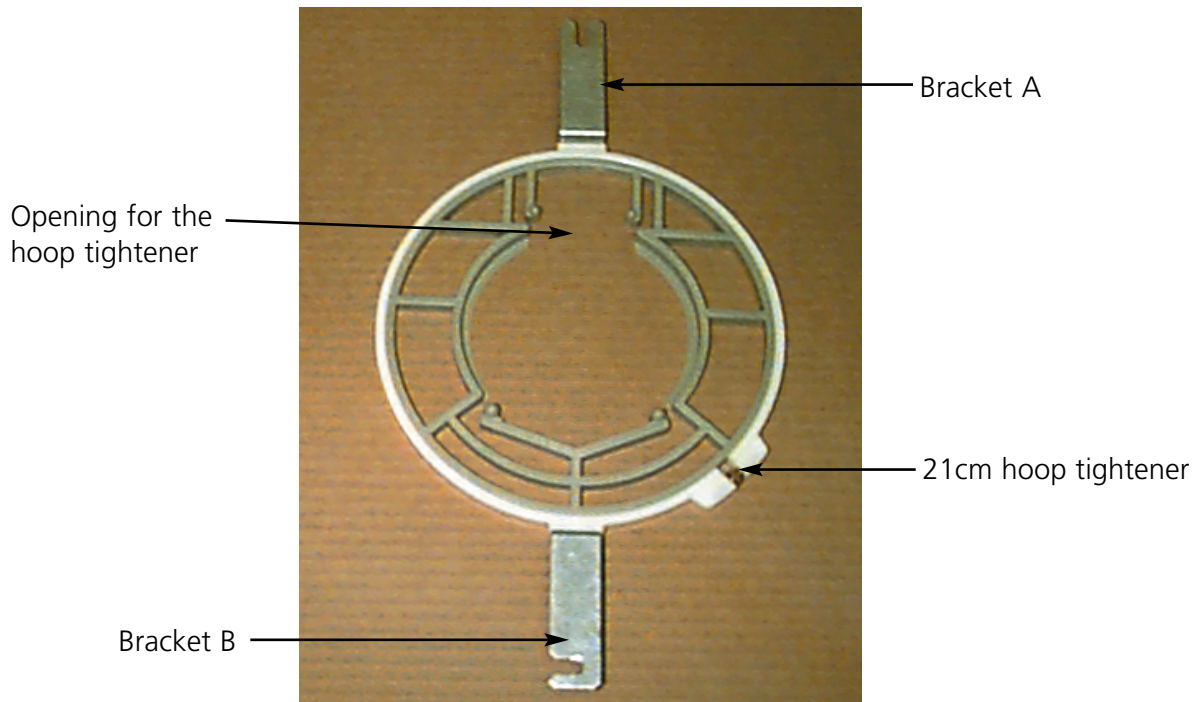

Figure 3-21
2. Remove the inner hoop from the 21cm hoop with the two brackets (shown in Figure 3-21).
3. Insert the spider hoop you plan to use so that the opening in the spider for the hoop tightener is centered on the bracket with the back-facing slot (Bracket A in Figure 3-21). Secure the spider with the 21cm hoop tightener.
4. Referring to Figure 3-21, slide bracket A into place on the thumb screw at the rear of the sash frame, then swing bracket B into place on the thumb screw at the front of the sash frame.